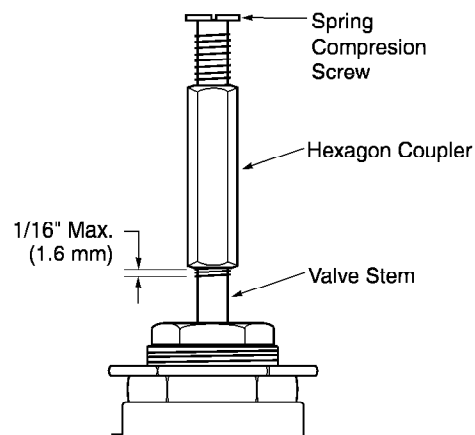

Figure-1 Installation of Hexagon Coupler and Spring Compression Screw onto Valve Stem.
1. Thread the hexagon coupler onto the valve stem all the way to the bottom of the stem thread, finger tight (Figure-1).